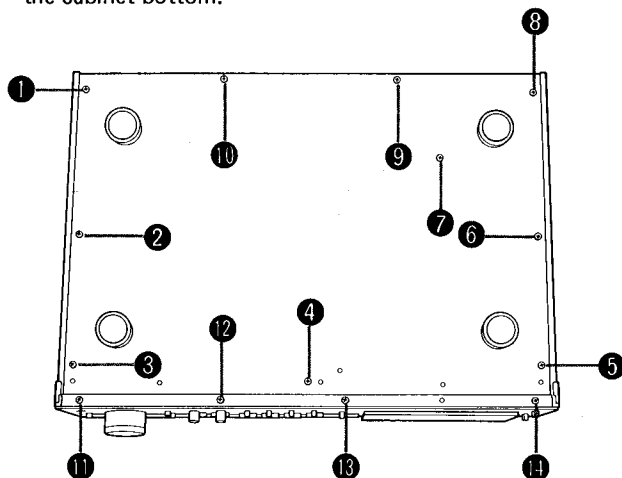
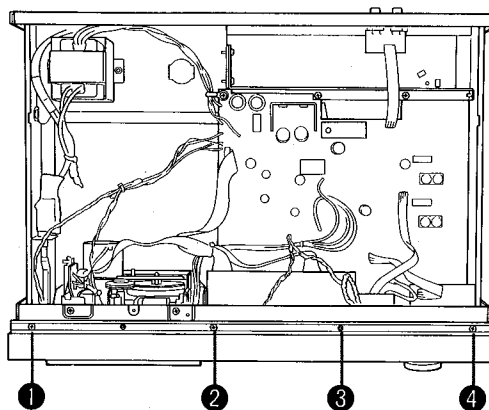

Fig. 2
Fig. 3
② CABINET BOTTOM REMOVAL
Remove the screws ① to ⑩ in Fig. 2 and then remove the cabinet bottom.
③ FRONT PANEL ASSEMBLY REMOVAL
1. Remove the cabinet top. (Refer to step ①)
5. Remove the screws ① to ⑭ in Fig. 2 and ① to ④ in Fig. 3 and then remove the front panel assembly.